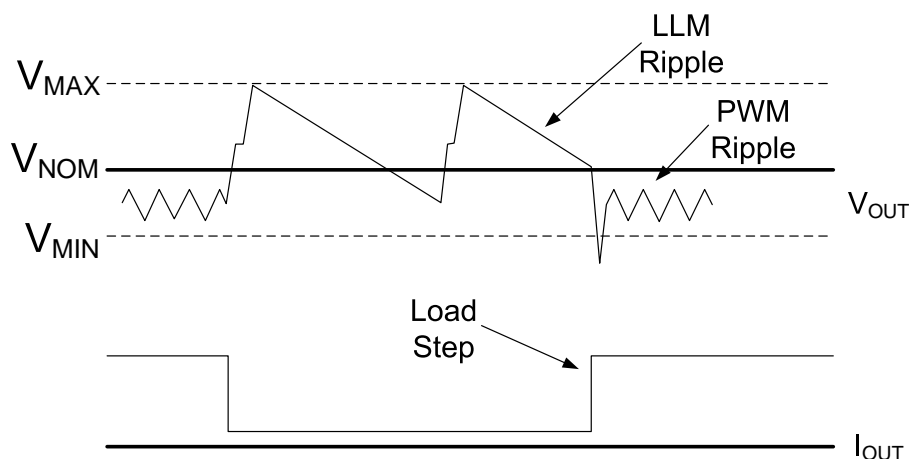

Figure 5. VOUT behavior in LLM operation
- (1) Step V_{OUT} up by approximately 1.0% above the nominal operating output voltage setting, V_{NOM} and as low as -0.5% below V_{NOM} , and then
- (2) Shut down unnecessary circuitry, and then
- (3) Monitor V_{OUT} .
When V_{OUT} falls below V_{NOM} , the device will repeat (1), (2), and (3). The voltage step up, or pre-positioning, improves transient droop when a load transient causes a transition from LLM mode to PWM mode. If a load transient occurs, causing V_{OUT} to fall below the threshold V_{MIN} , the device will exit LLM operation and begin normal PWM operation. Figure 5 demonstrates V_{OUT} behavior during transition into and out of LLM operation. Many multi-mode DC-DC converters suffer from a condition that occurs when the load current increases only slowly so that there is no load transient driving V_{OUT} below the V_{MIN} threshold. In this condition, the device would never exit LLM operation. This could adversely affect efficiency and cause unwanted ripple. To prevent this from occurring, the EN6347QI periodically exits LLM mode into PWM mode and measures the load current. If the load current is above the LLM threshold current, the device will remain in PWM mode. If the load current is below the LLM threshold, the device will re-enter LLM operation. There may be a small overshoot or undershoot in V_{OUT} when the device exits and re-enters LLM.